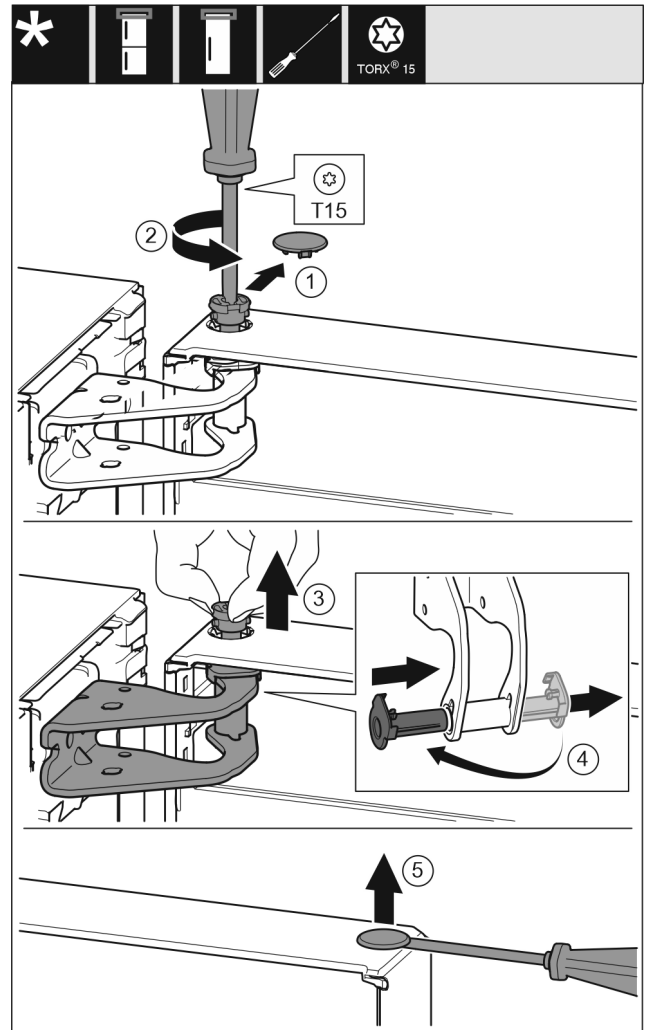

Fig. 11
- ▶ Carefully remove the protective cover. Fig. 11 (1)
- ▶ Undo the bolt a little with a T15 screwdriver. Fig. 11 (2)
- ▶ Hold the door and remove the bolts with your fingers. Fig. 11 (3)
- ▶ Pull the bearing bush out of the guide. Insert from the other side and latch into place. Fig. 11 (4)
- ▶ Carefully lift the plugs out of the door bearing bush with a slotted screwdriver and pull them out. Fig. 11 (5)